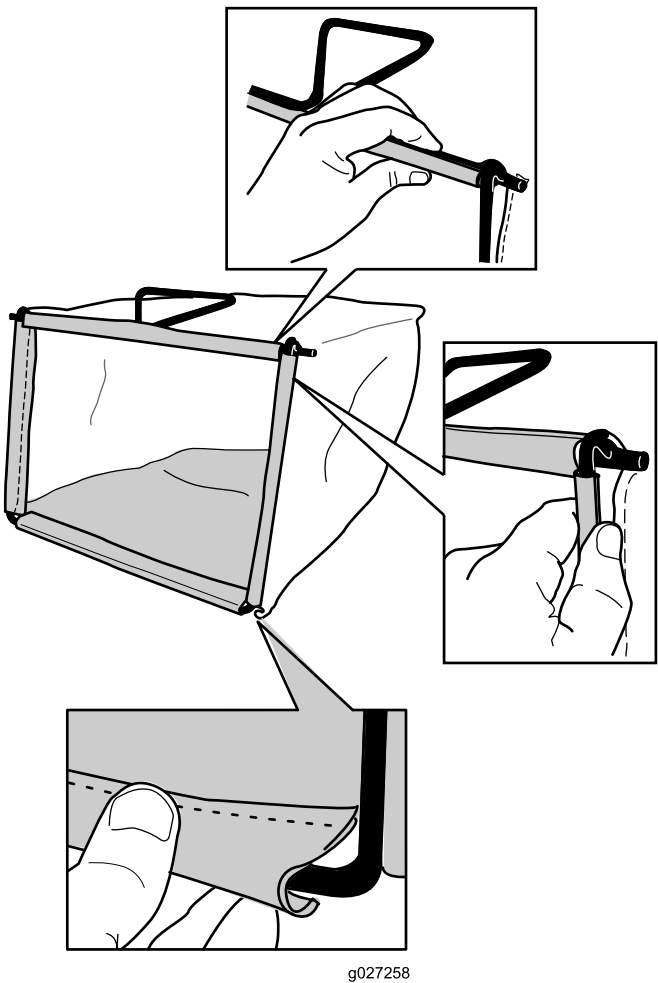

Figure 8
2. Hook the bottom channel of the bag onto the bottom of the frame (Figure 8).
- 3. Hook the top and side channels of the bag onto the top and sides of the frame, respectively (Figure 8).